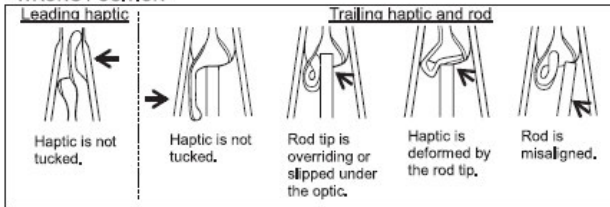

Fig.11: Step 5 - Do not proceed in case of wrong position
**DO NOT** proceed if the leading and / or trailing haptics are not in correct position, or the rod tip does not push the edge of the optic in the center (Fig.11).